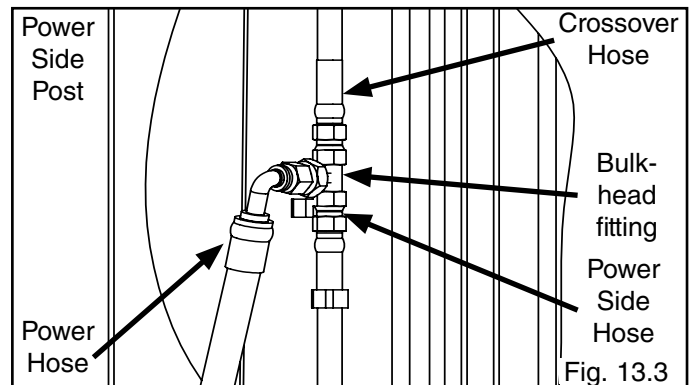

Fig. 13.3
3. Connect other end of power unit hydraulic hose assembly to the bulkhead fitting. (See Fig. 13.3)